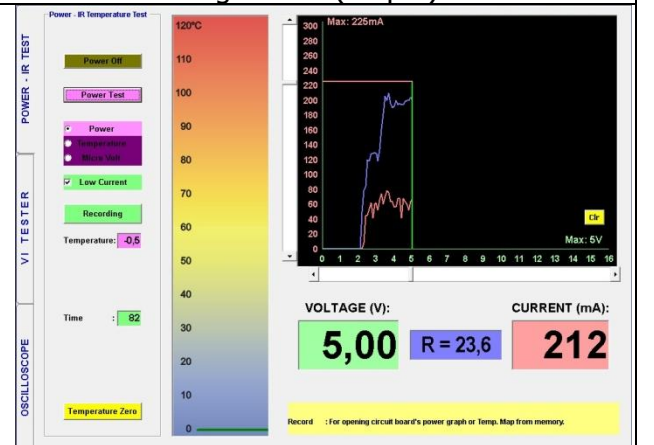

Figure 28: Comparing the DC VI Graph with the Data Saved in the Memory. (Step 4)
- The "Power Test" button is clicked to generate the DC VI Graph of the defective or suspect board and is compared with the recorded data. (Figure 28)